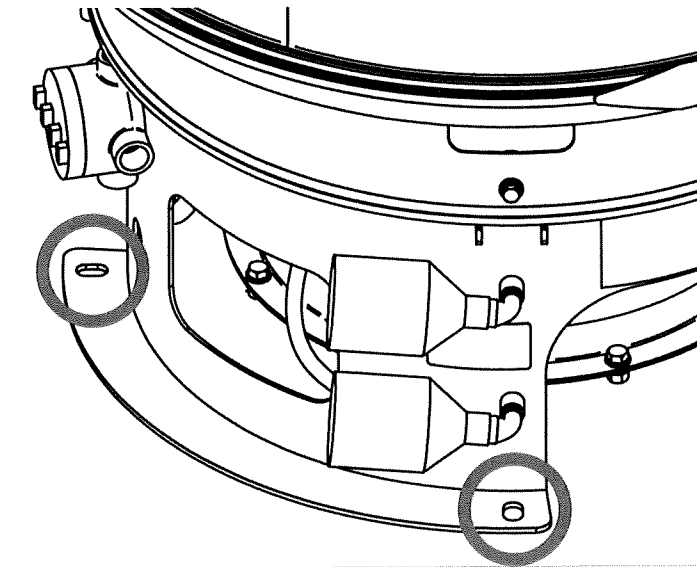

Figure 6 Detail View, Single HX Separator Mounting Support (Mount Holes Circled)
- a. The base stand weldment has two (2) supports (Refer to Figure 6), and each has a foot pad with two 0.625in (16 mm) mounting holes.